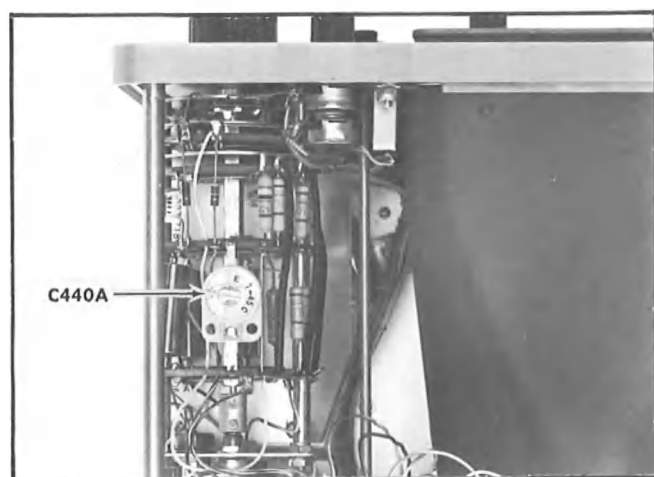

Fig. 5-26. Location of C440A (top).
d. ADJUST—C440A (see Fig. 5-26) for one marker each division (use low-capacitance screwdriver).